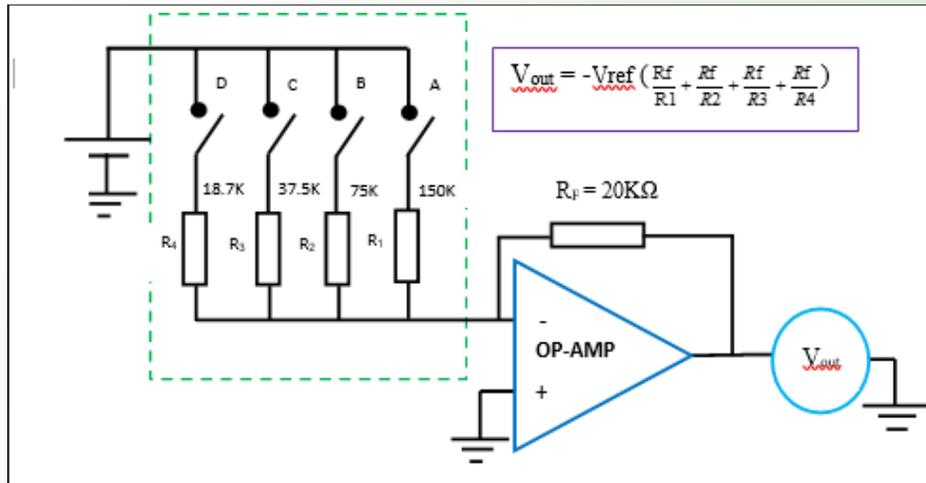

Figure 6.2: 4-Bit Binary Weighted Resistor DAC
The circuit in figure 6.2 above is a digital to analog converter circuit of resistors 4-bit binary weights. The resistor values can be calculated using the weighting of the binary number.
1. Repeat the procedure 1 and 2. Then calculate the calculated value of V_0 by using the formulae in figure 6.2. Compare the both values of calculated and measured values. Record all the readings in the table 6.1